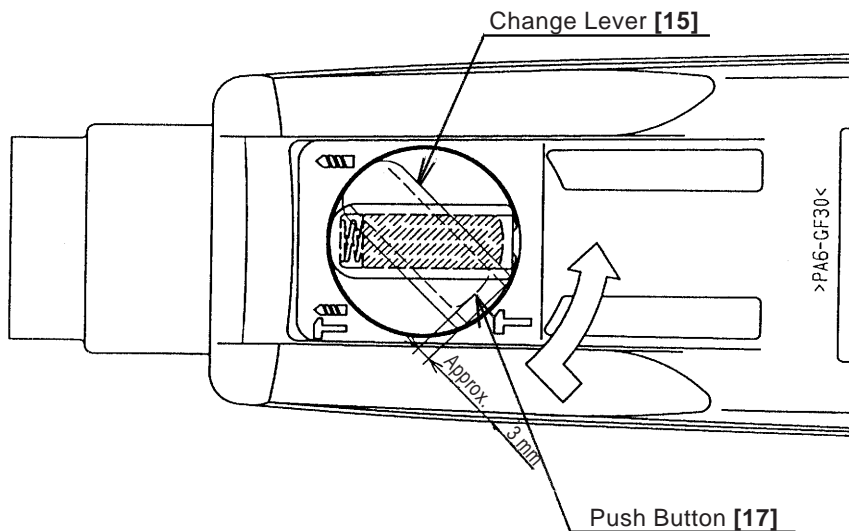

Fig. 3
(2) Disassembly of the Change Lever
- As shown in Fig. 3, pressing the Pushing Button [17] hard, turn the Change Lever [15] 45° counterclockwise from the "striking only" position (T mark). Pry out the Change Lever [15] at this position.